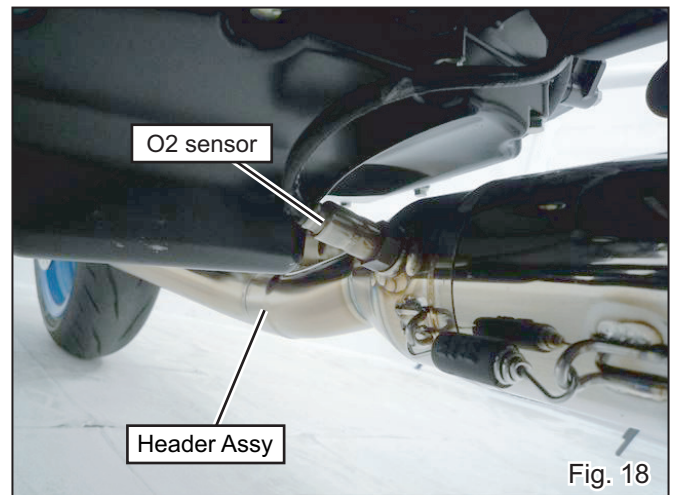

Fig. 18
- 13) Remove O2 sensor attached to the stock exhaust pipe and after attaching Extension Cable, install the O2 sensor to Header Assy and tighten it with specified torque. Next, secure the cable using Zip Tie and Clip to the vehicle side so that it does not interfere with muffler or engine and connect the Extension Cable on vehicle side coupler (See Fig. 18, 19, 20, 21, 22, 23).